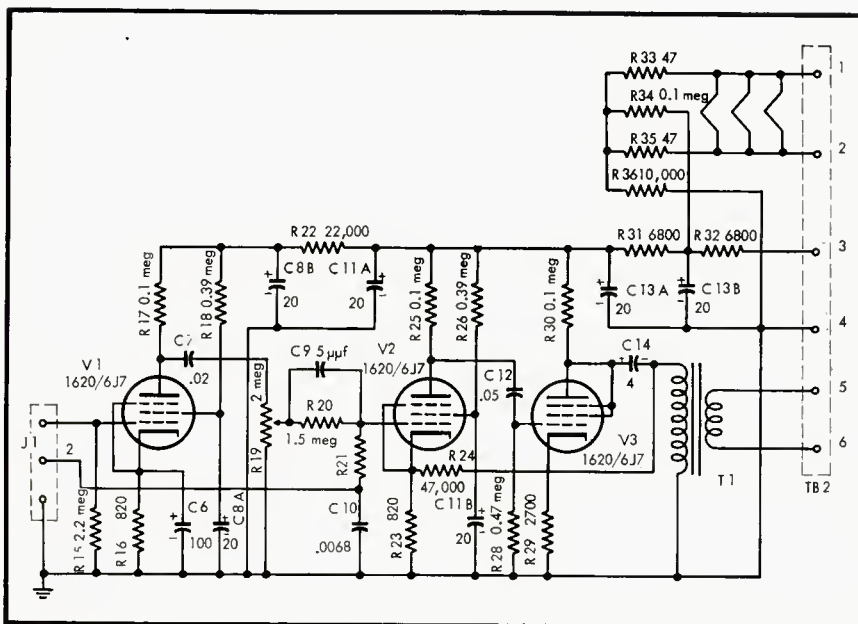

Fig. 4. Schematic of the amplifier. When used to feed a high-impedance amplifier following the preamp, the transformer may be eliminated, as shown in Fig. 5.
1. *Common Ground.* All grounds for  $V_1$ ,  $V_2$ ,  $V_3$ , the shield of the cable leading to the record-playback head, and the arm of  $S_b$  were connected to a common lug well-soldered to the chassis at a point near  $V_1$ . This common ground is identified as Point A in Fig. 4.